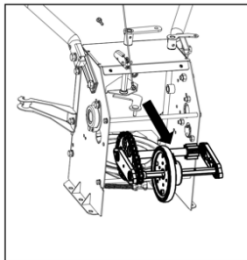

Figure 26
4. Pull the hex shaft by force,remove the hex shaft and transition shaft assembly off. See Figure 26.